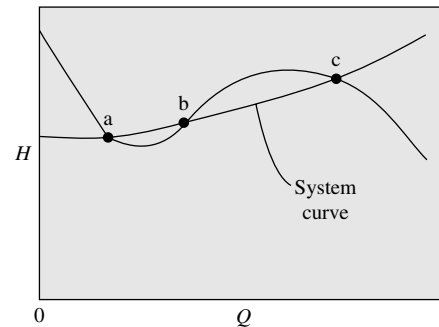

Fig. P11.82
**11.82** The S-shaped head-versus-flow curve in Fig. P11.82 occurs in some axial-flow pumps. Explain how a fairly *flat* system-loss curve might cause instabilities in the operation of the pump. How might we avoid instability?
**Solution:** The stability of pump operation is nicely covered in the review article by Greitzer (Ref. 41 of Chap. 11). Generally speaking, there is little danger of instability if the slope of the pump-head curve,  $dH/dQ$ , is *negative*, unless there are two such points. In Fig. P11.82 above, a flat system curve may cross the pump curve at *three* points (a, b, c). Of these 3, **point b is statically unstable** and cannot be maintained. Consider a small disturbance near point b: Suppose the flow rate drops slightly—then the system head decreases, but the pump head decreases *even more*. Then the flow rate will drop still *more*, etc., and we move away from the operating point, which therefore is *unstable*. The general rule is: